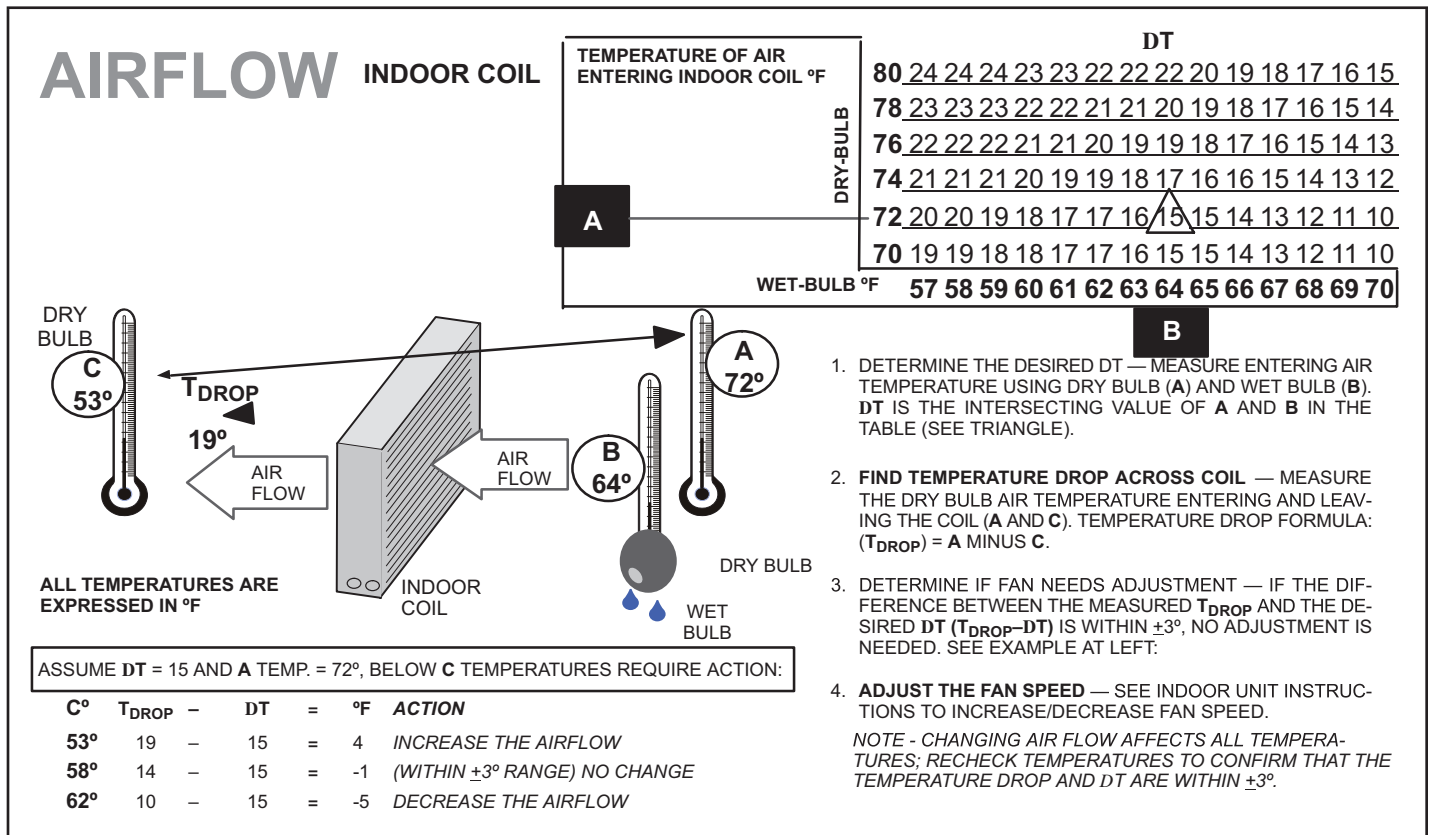

FIGURE 46. Checking Indoor Airflow over Evaporator Coil using Delta-T Chart
- 2 - Check and adjust indoor airflow as described in figure 46.
Check airflow using the Delta-T (DT) process using the illustration in figure 46.